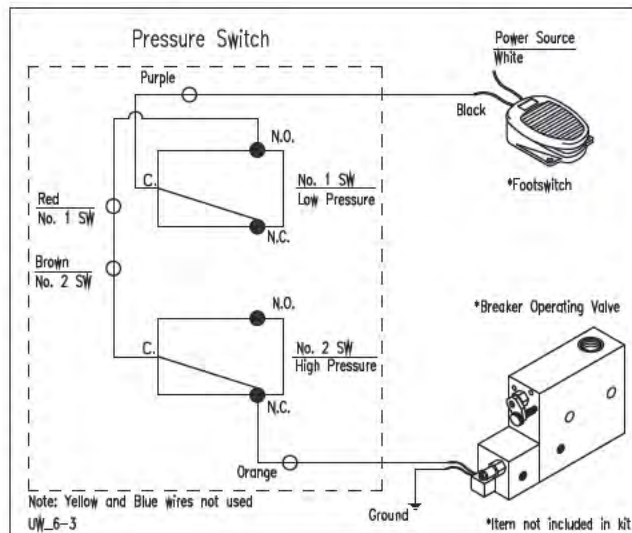

Fig. 6-1 Pressure Switch Wiring Diagram
Step 2. Wire pressure switch into circuit. Follow Fig. 6-1 and Table 6.1. Location of control switch (footswitch shown) must be protected against accidental operation.